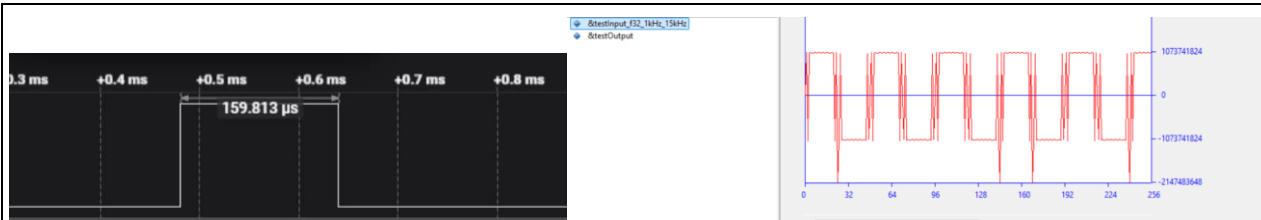

Figure 13. Processing-Time Measurements for the RZ/N2L, RZ/T2L, RZ/T2M and RZ/T2N
- Using a digital oscilloscope (as Figure 13), probe the anode of the LED on the RZ/N2L, RZ/T2L, RZ/T2N or RZ/T2M board and trigger on a high-to-low transition.